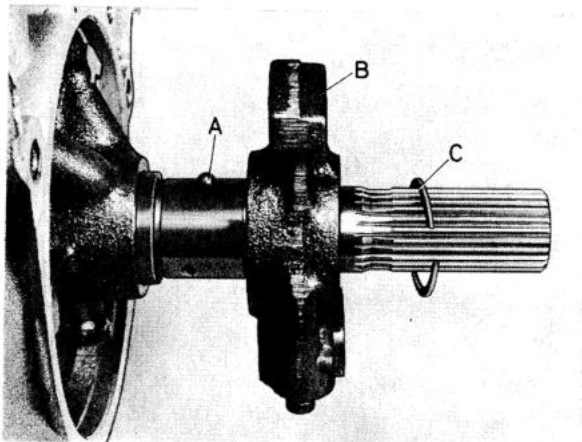

Fig. 4-100. Governor and driven shaft
6. Place the governor drive ball in the shaft as shown in Fig. 4-100. Fit the governor with the cover-plate facing the rear. Fit the snap ring.